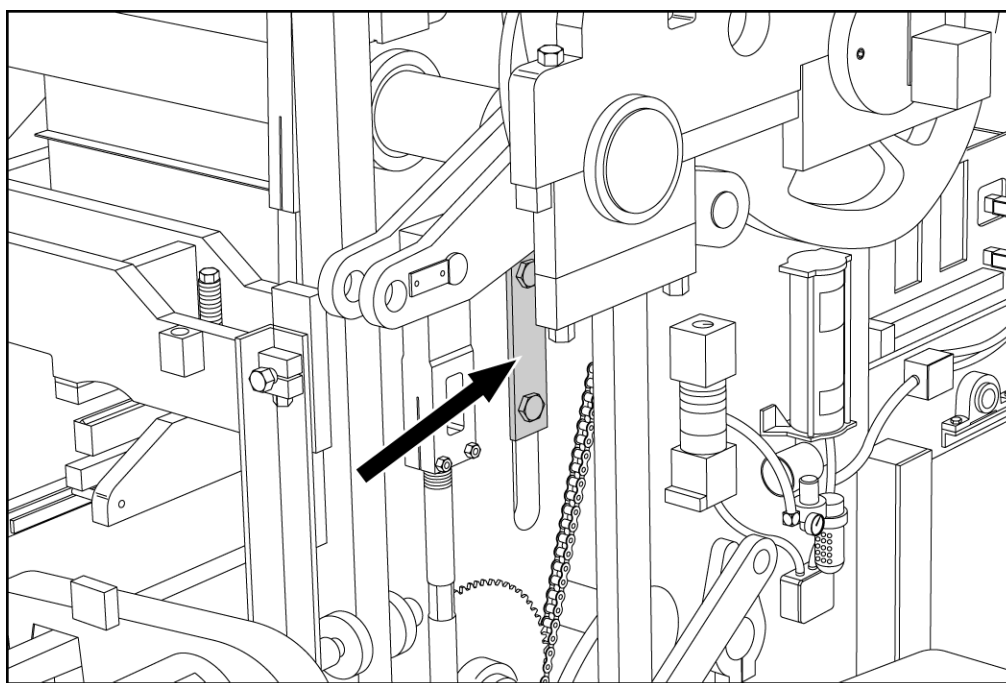

Figure 4.33 LOOSEN "T" CLAMPS ON BOTH SIDES
- a. Loosen the "T" clamps on each side of machine that secures machine side plate to mold throat plate (figure 4.33).